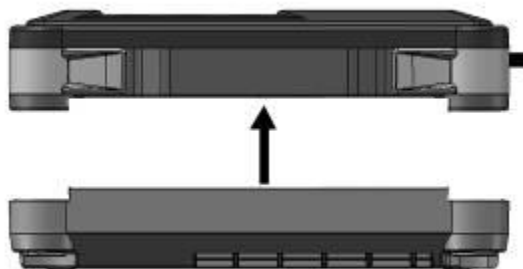

Figure 4, Lifting head off unit.
2. Lift the top (or “head”) off the bottom of the unit as show in Fig. 4 below: